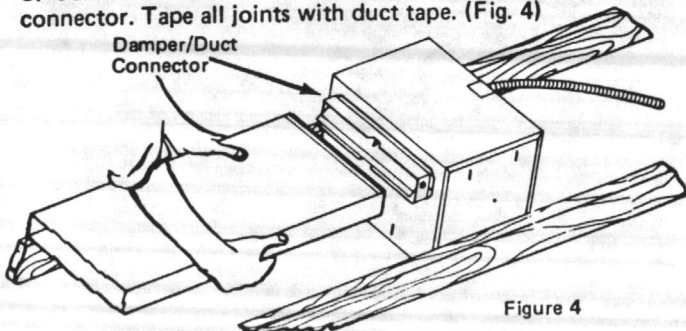

Figure 4
5. Connect Ductwork - Connect ductwork to damper/duct connector. Tape all joints with duct tape. (Fig. 4)